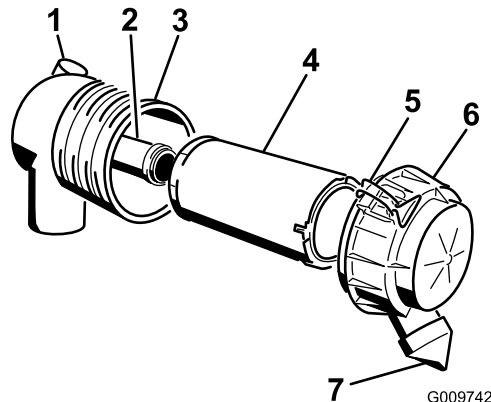

Figure 30
Important: Service the air cleaner filter only when the service indicator shows red (Figure 30). Changing the air filter before it is necessary only increases the chance of dirt entering the engine when the filter is removed.
4. Release the latches on the air cleaner and pull the air cleaner cover off of the air cleaner body (Figure 30).
1. Gently slide the primary filter out of the air cleaner body (Figure 30). Avoid knocking the filter into the side of the body.
4. If you are replacing the safety filter, carefully slide the new filter into the filter body (Figure 30).
5. Carefully slide the primary filter over the safety filter (Figure 30). Ensure that it is fully seated by pushing on the outer rim of the filter while installing it.
6. Install the air cleaner cover with the side indicated as UP facing up and secure the latches (Figure 30).